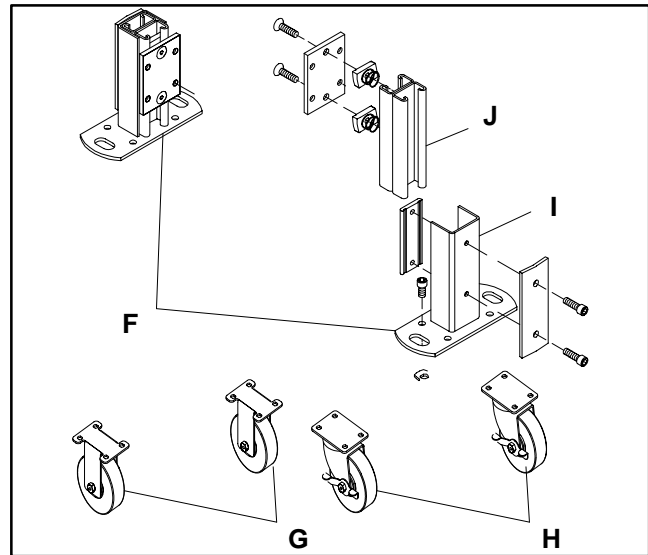

Figure 2: 6' & 8' (152 mm & 203 mm) High Steel Support Stands
Steel stands are available with permanent floor mounting feet (F of Figure 2) or with optional fixed position (G) or rotationally lockable, pivoting casters (H). The steel stand assemblies consists of several different combinations of differing length legs (I), differing length boots (J) and stabilizing cross members (K) that match the respective conveyor widths.